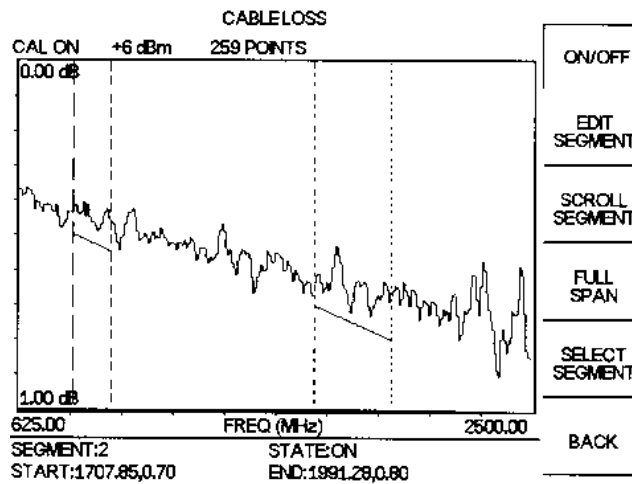

Figure 4-12. Cable Loss Measurement Results
- Step 56.** Repeat the above steps as necessary to set the Segment #2 Start Frequency to 1710 MHz, Start Limit to 0.70, Stop Frequency to 1990 MHz, and Stop Limit to 0.8. Figure 4-12 depicts a typical cable loss measurement.